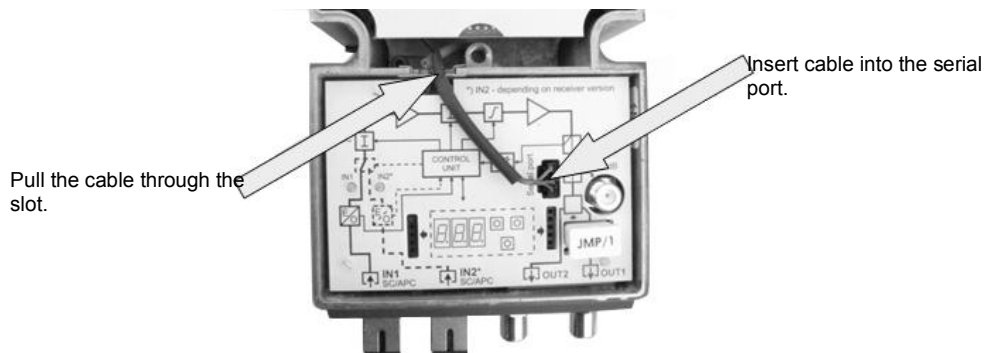

Fig. 8.9. Replacing the TMM 729 remote monitoring module - step 7.
- Fig. 8.9. Replacing the TMM 729 remote monitoring module - step 7.